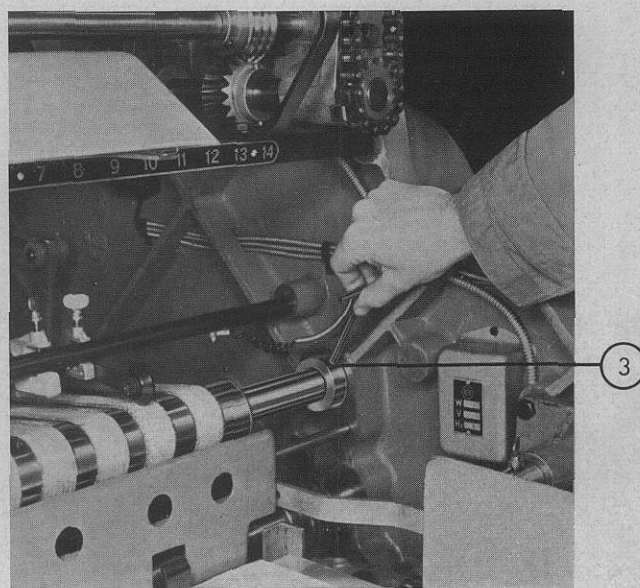

Fig. 27
- d) loosen shoulder ring locking screw fitted to the tape drive shaft inside the left hand shoulder, and push this shaft towards the left hand side of the machine until it is withdrawn from the bushing on the right hand shoulder (fig. 27);